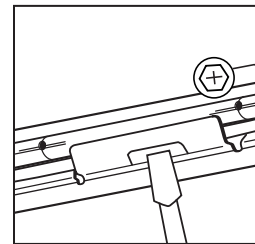

Figure 5
**Step 2.** Slide fixture along bar hangers into desired location. Use locking screws or slot to secure (Fig. 5).